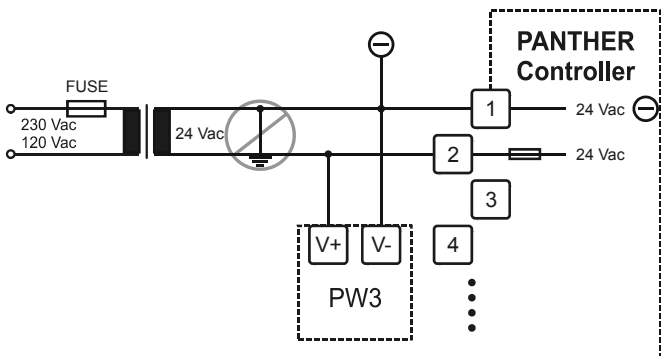

Fig. 40. PW3 Meter Adapter power connections
4. Connect 24 V power to the PW3 according to Fig. 40. Insert wires into the terminals on the underside of the PW3 and tighten the screws on the front of the unit.